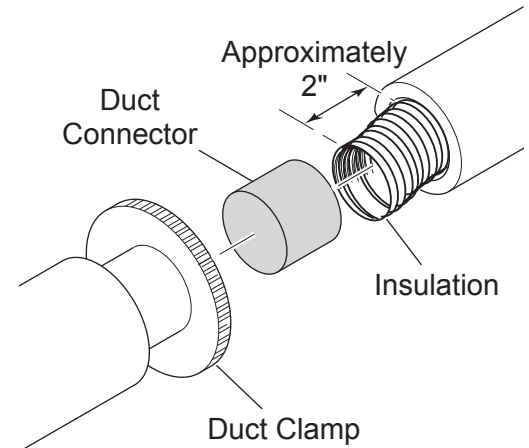

Figure 49 - Installing Duct Connector 403
7. If the duct is the insulated type, push the insulation back from one end of the duct approximately 2". See *Figure 49*.